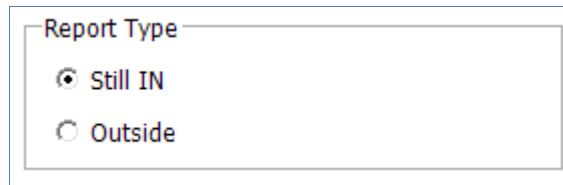

Figure 105 - Report Type
4. Select the report type by choosing Still In or Outside (Refer **Figure 105**).